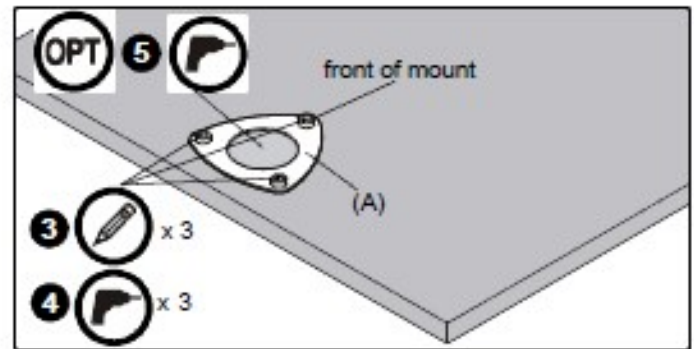

Figure 2
3. Use clamping plate (A) as a template to mark locations for the three holes to be drilled at desired mounting location.
4. Drill three 5/16" holes at locations marked in Step 3. (See Figure 2)
**NOTE:** If cables are going to be routed through the table, an additional hole needs to be drilled in center of clamping plate (A). See Cable Management Section for details.
5. (Optional) If cables are going to be routed through the desk, drill an additional hole in the center of the clamping plate that is large enough to account for all cables that will be routed through the desk. (See Figure 2)